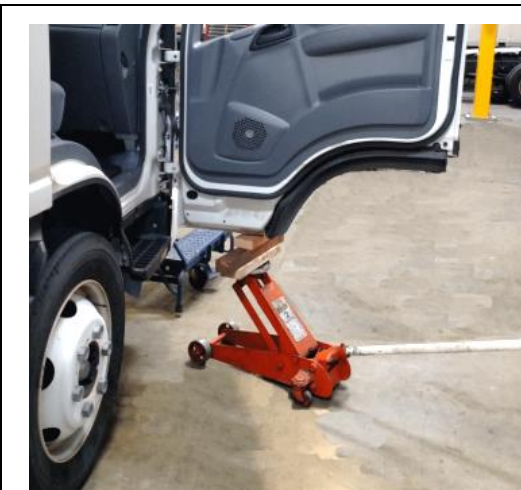

Figure 5
3. Open and support the door with a piece of wood using a floor jack. (See Figure 5.)